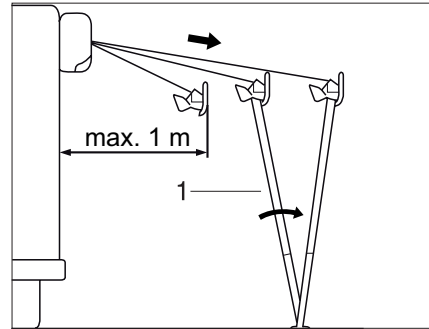

Fig. 22 Putting up the awning
- ▶ Fold out the support legs (Fig. 22,1) and set them on the ground.
- ▶ Remove the tent pegs of the support legs (Fig. 22,1).